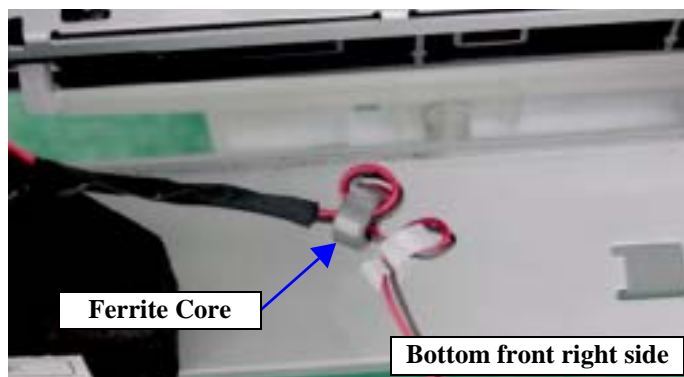

Figure 4-113. Checking the Ferrite Core
- When changing the PF Motor, make sure that the Ferrite Core is fitted to the Cable securely. Refer to Figure 4-113, "Checking the Ferrite Core".